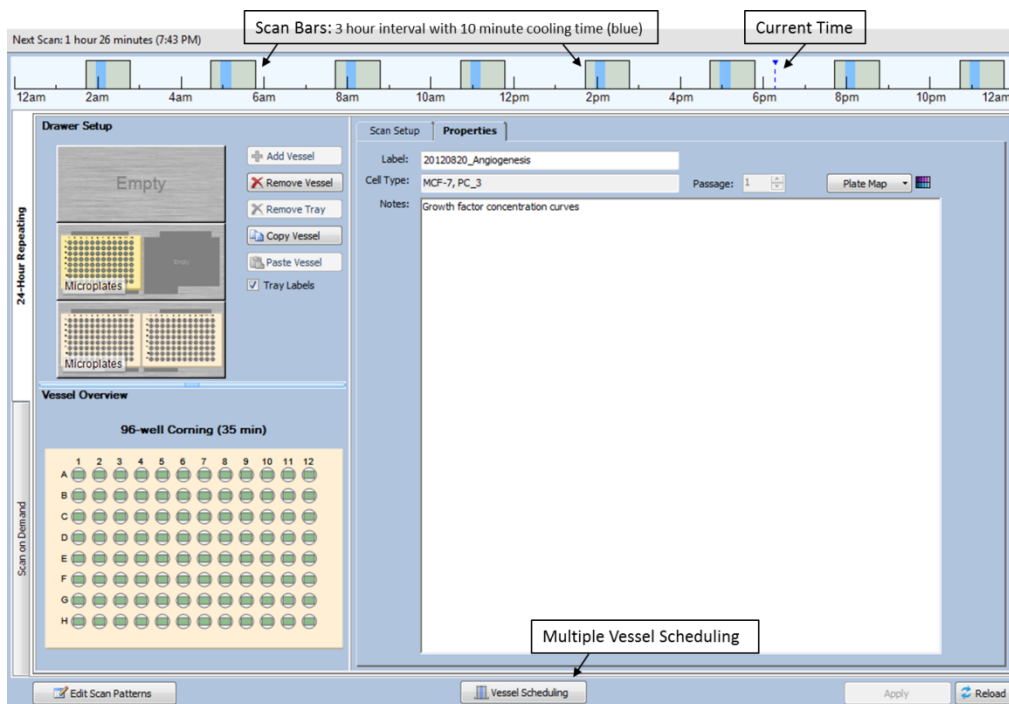

Figure 14. 24-Hour Scheduler
1. The current time will be displayed as a dotted blue line within the Timeline (Figure 14). To create a scan time, left-click on the Timeline. A gray Scan Bar will now be displayed. Hold the mouse over the Scan Bar to display the exact scan start time and scan length.
3. To set multiple scans at regular intervals, right-click on the gray Scan Bar and select Set Interval. Select the interval times desired for your assay (e.g. every 30 minutes or every 3 hours). Scan Bars will now appear for each scan time. Refer to Figure 14.